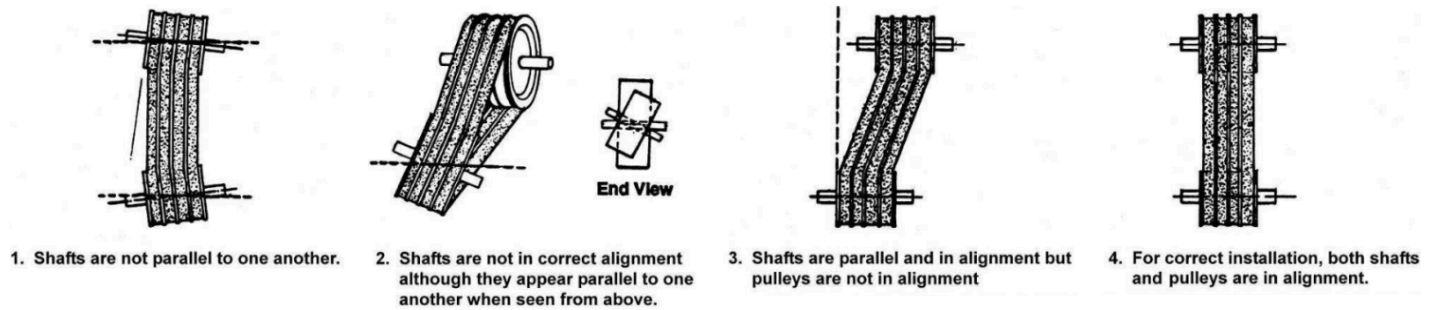

Figure 7-5: Pulley and shaft misalignment
- c. Review **Figure 7-5** for the different types of alignment issues.